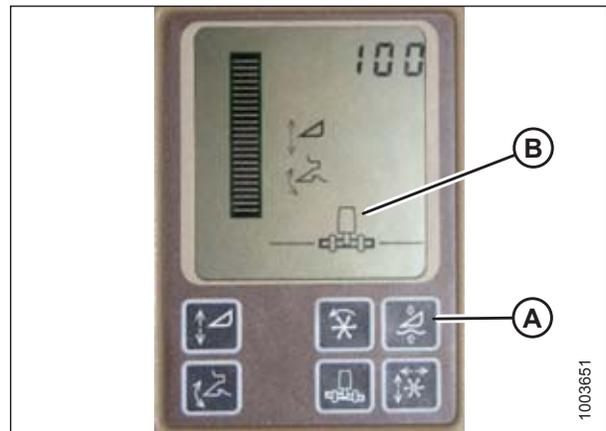

Figure 6.53: John Deere Combine Display
Do **NOT** use active header float function (A) in combination with MacDon auto header height control (AHHC)—the two systems will counteract one another. The header symbol (B) on display should **NOT** have a wavy line under it and should appear exactly as shown on Active Header Control Display in Figure 6.53, page 98.